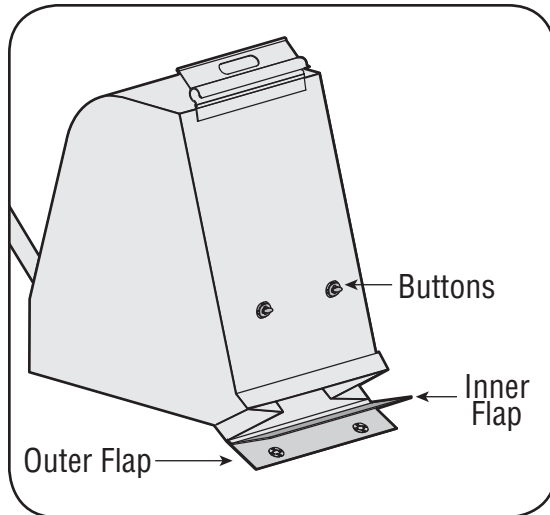

Figure 4-3
2. Twist the two buttons on the back of the bag to unlock and empty contents. See Figure 4-3. Hold bag handle and bag clip while emptying the contents.
4. Fold outer flap over inner flap and insert buttons on the bag through metal outlets. See Figure 4-3.